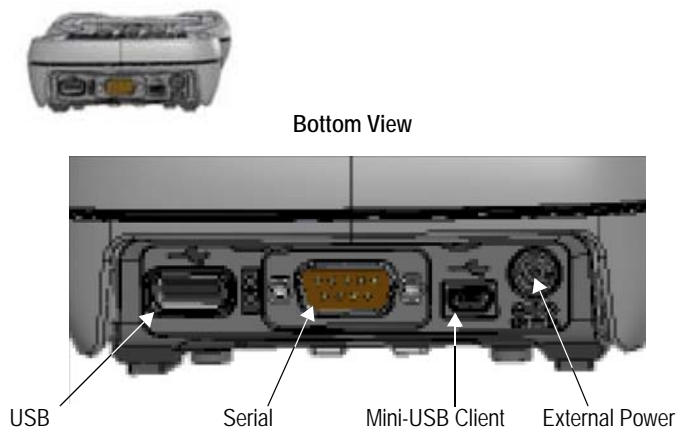

Figure 4.3 Ranger Communications Connections
- 6 Connect the other end of the AC adapter/battery charger into a power source. See Figure 4.3.